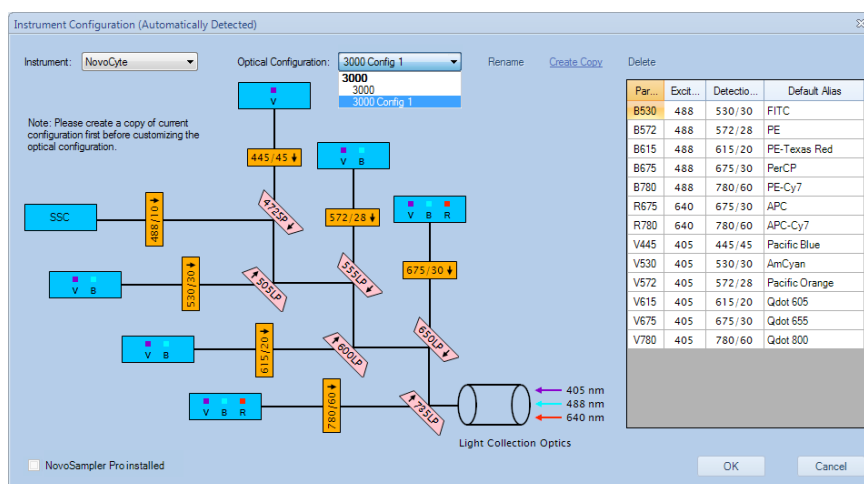

Figure 2-1 Instrument Configuration Window
- 2 Click the *Optical Configuration* panel. Click and select the desired optical configuration as shown in Figure 2-1. Click *OK* to continue.